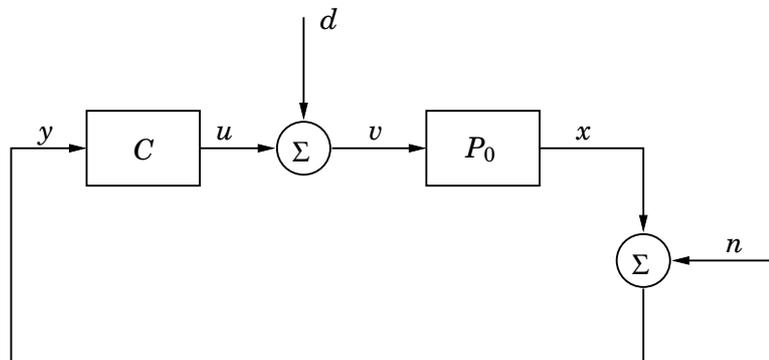

Figure 11.1 The block diagram of the closed loop system in 11.1.
11.1 Consider the control system in Figure 11.1, designed around the SISO system P_0 .
- c. Determine H for the system in Figure 11.1 and rewrite it in terms of the (output) sensitivity function $S = \frac{1}{1 - P_{yu}C}$ and complementary sensitivity function $T = \frac{P_{yu}C}{1 - P_{yu}C}$. Use the formula in b.